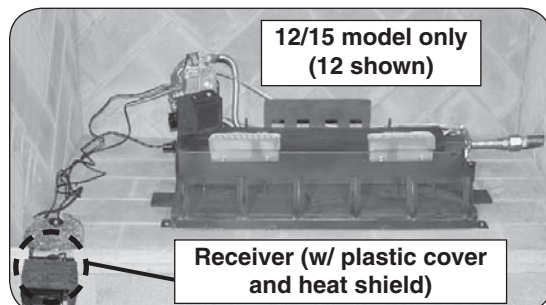

Fig. 19-4 Place remote receiver
3. **Place the remote receiver at the front left corner of the fireplace. Place as far from the burner system as possible.** See Fig. 19-4.
4. Place the plastic cover over the remote receiver with the open side facing forward to allow access to the receiver controls. Then place the decorative heat shield. See Fig. 19-4.